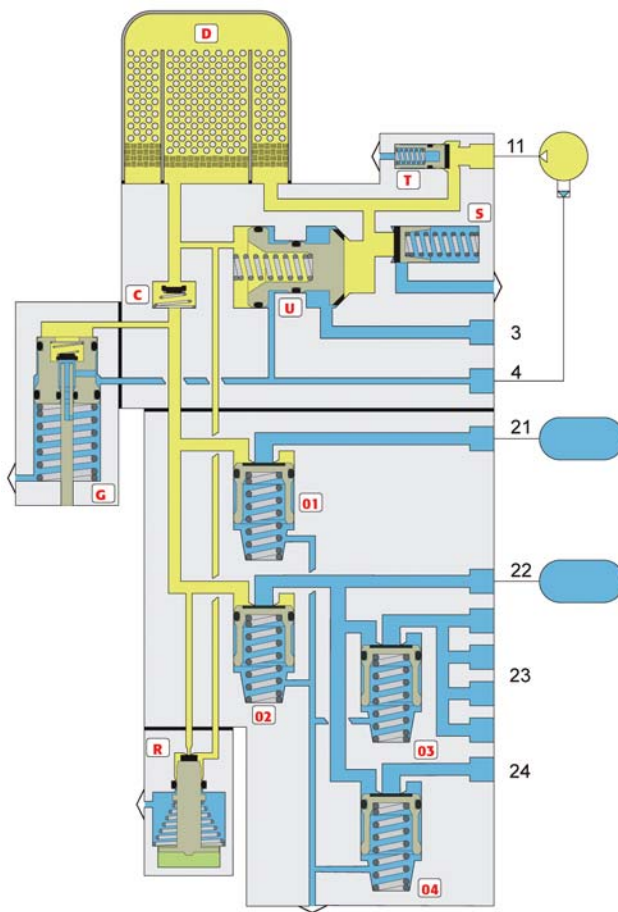

Figure 3: Turbo protection valve (T) and check valve (C) open
When the engine is first started, compressed air from the air compressor flows through the discharge line to the inlet port marked 11 on ModulAir®. When the inlet pressure gets to about 44 psi, the turbo protection valve (T) opens and allows air to flow through the desiccant cartridge (D) and the check valve (C) opens as seen in Figure 3.